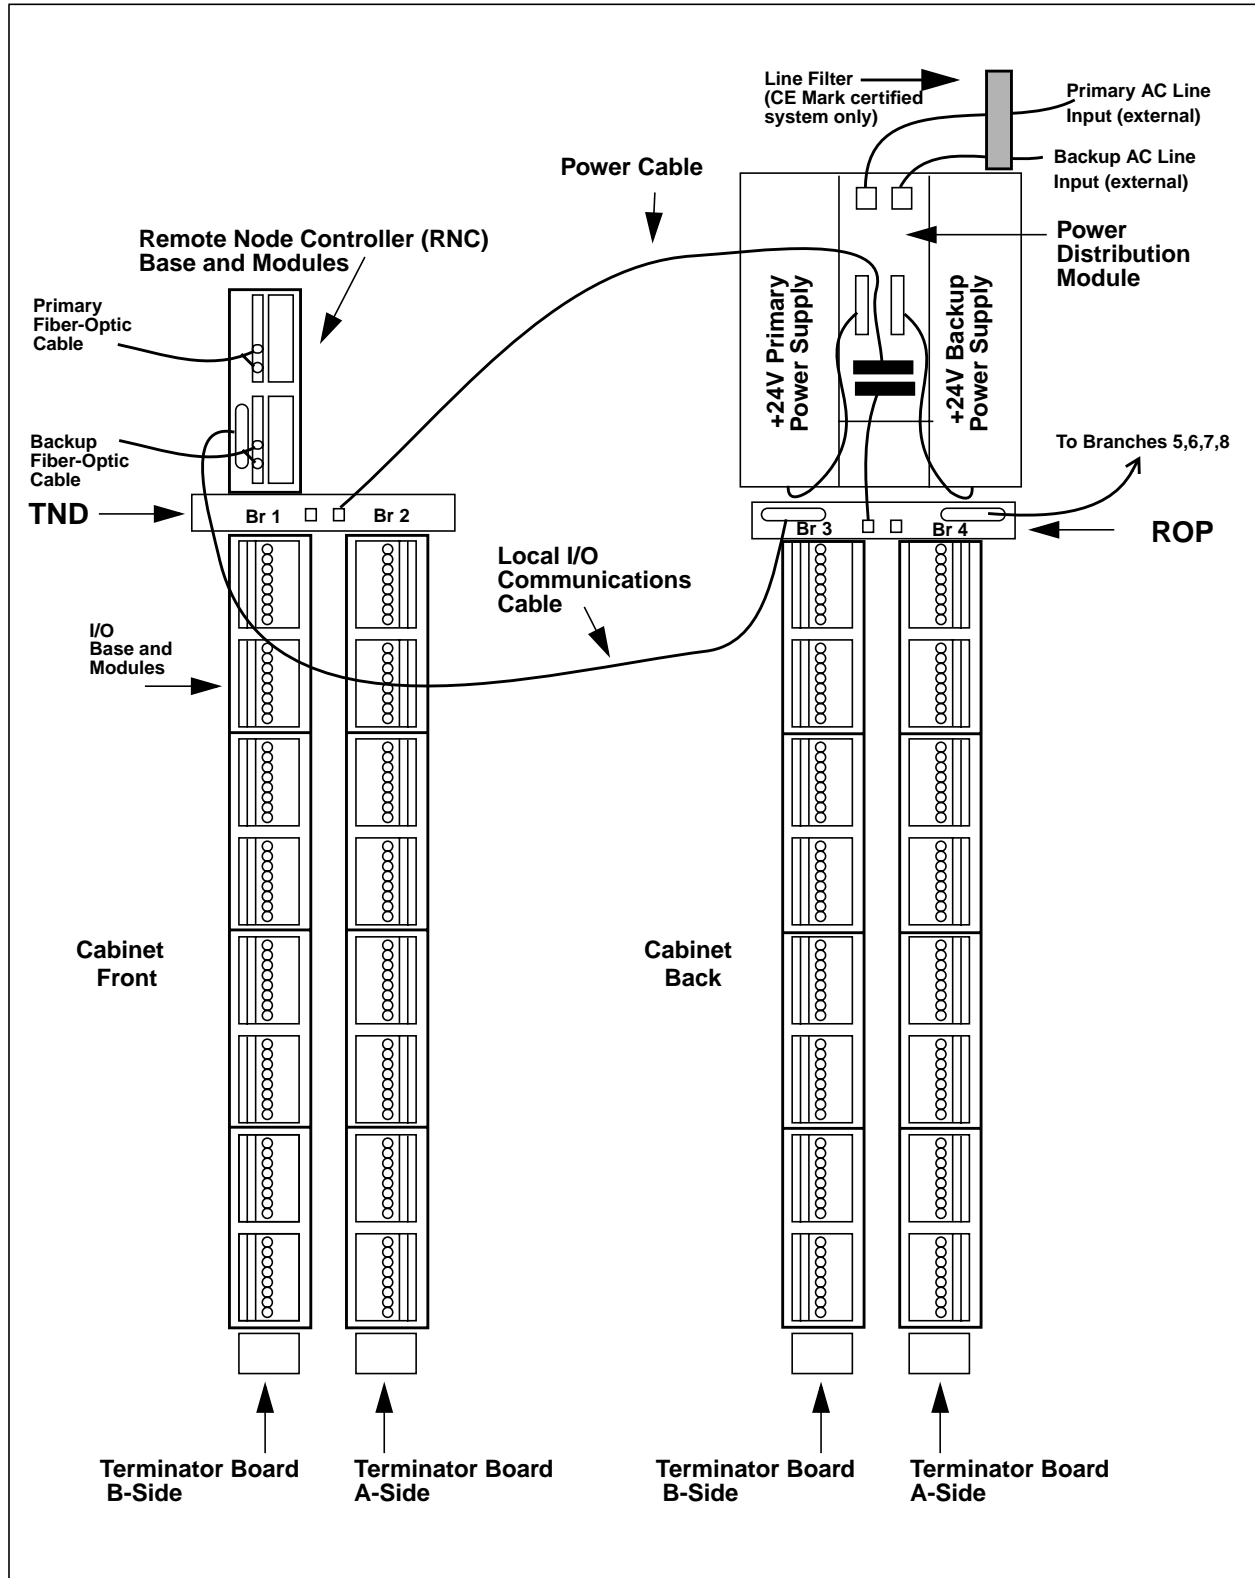

Figure 27-5. Typical Remote Node Cabinet
The Ovation Remote Node cabinet, located remotely from the Controller cabinet (refer to Figure 27-5) contains the following:
- I/O Branch Terminator Board A or B (1B30023) - Connects to the A/B-side of a standard I/O base at the end of a branch to terminate the I/O bus. Refer to Figure 27-5 to identify the A/B-side of an I/O base.